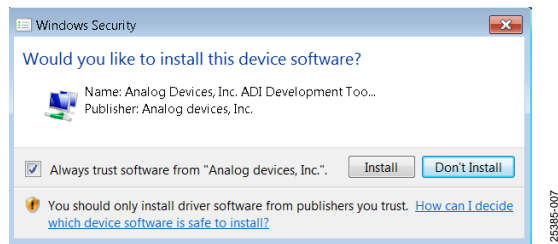
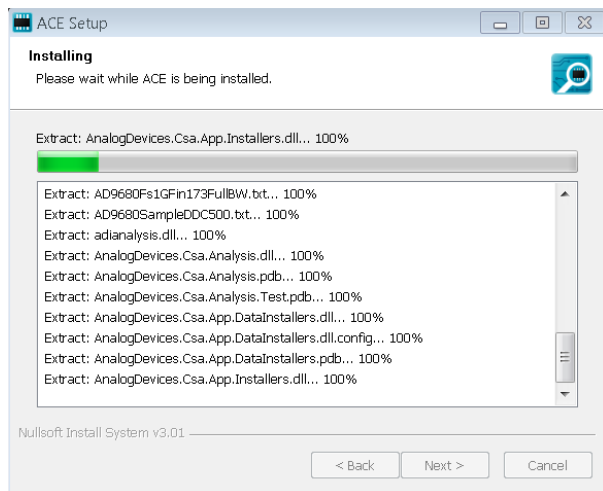

Figure 7. Windows Security Window
Figure 8. Installation in Progress
- The **Windows Security** window appears. Click **Install** (see Figure 7). The installation is in progress. No action is required (see Figure 8).